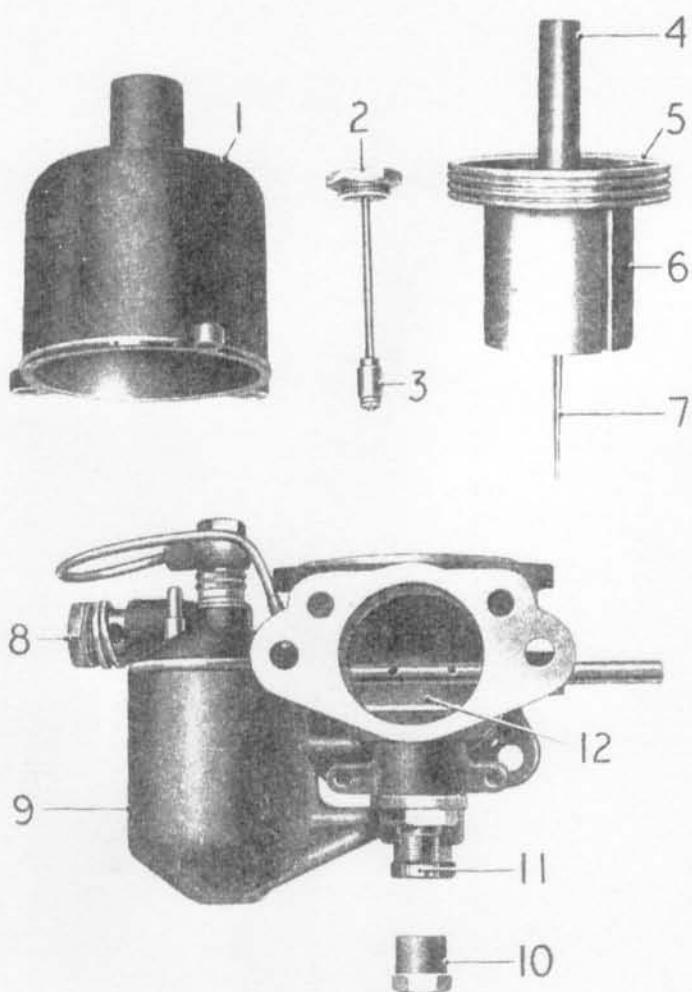

Fig. 14. - CARBURETTOR - EXPLODED VIEW.
The suction disc (5, Fig. 14) does not touch the walls of the valve chamber, there being a small clearance, and it is centralised solely by the piston rod working in the guide. Therefore, any sluggishness in movement is probably due to dirt in the guide, or on the valve chamber walls.
2. The strength or quality of the mixture for slow running is set by means of an adjustable screw in the base of each carburetter (11, Fig. 14). The screw operates to raise or lower the jet. Raising the jet causes the taper needle to sink farther into the orifice, so weakening the mixture. Conversely, lowering the jet enriches the mixture.
3. Remove the cap (19, Fig. 14) from the base of each carburetter to expose adjusting screw. With the engine warm and running, manipulate the screws; a coin provides an easy means of turning, so that the engine runs regularly. Any sign of "hunting" is due to too rich a mixture and one or both of the screws should be screwed farther in.